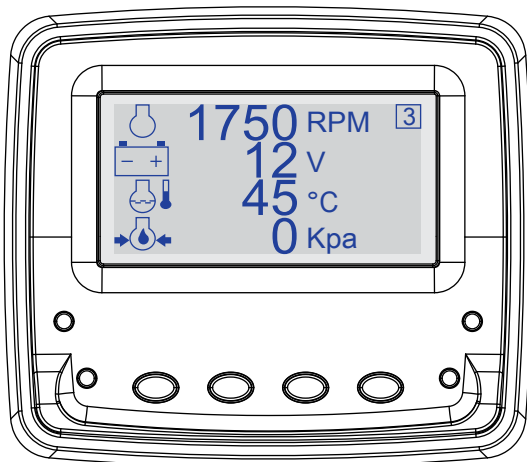

Figure 20. Diagnostic Display (Engine Idle)
- Turn the ignition key fully **clockwise** to the **START** position and listen for the engine to start. Once the engine has started, release the ignition key. The throttle speed will default to idle (1,750 rpm). See Figure 20.